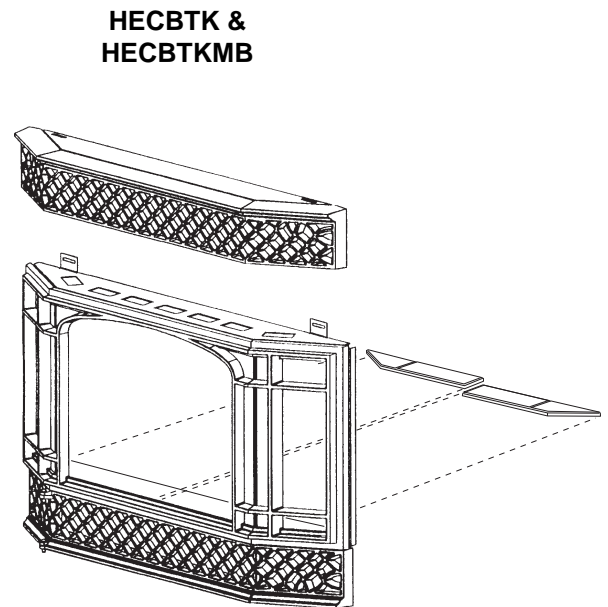

Fig. 32
- 3) Install the two ceramic pieces inside the bay window, as per Fig.32.
- 4) Install the two ceramic pieces inside the bay window, as per Fig. 32.